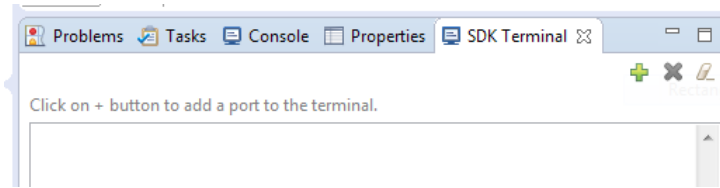

Figure 43: SDK Terminal Tab
3. Although the system is up and running (check the LEDs), there is no way to see printouts unless we connect to the board via a Terminal. This can be done in SDK. Select **SDK Terminal** tab in the lower/Console region, as shown in Figure 43, then click on **+** to connect to a serial port.